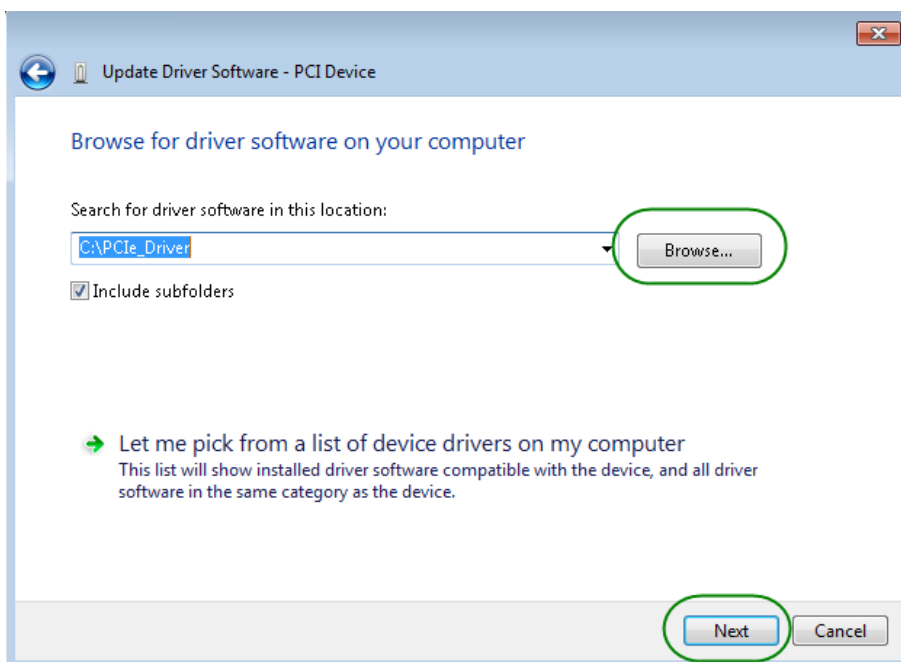

Figure 7-5 Browse for driver software on your computer
7. In the **Browse for driver software on your computer** dialog, click the **Browse** button to specify the folder where altera_pcie_din_driver.inf is located, as shown in **Figure 7-5**. Click the **Next** button.